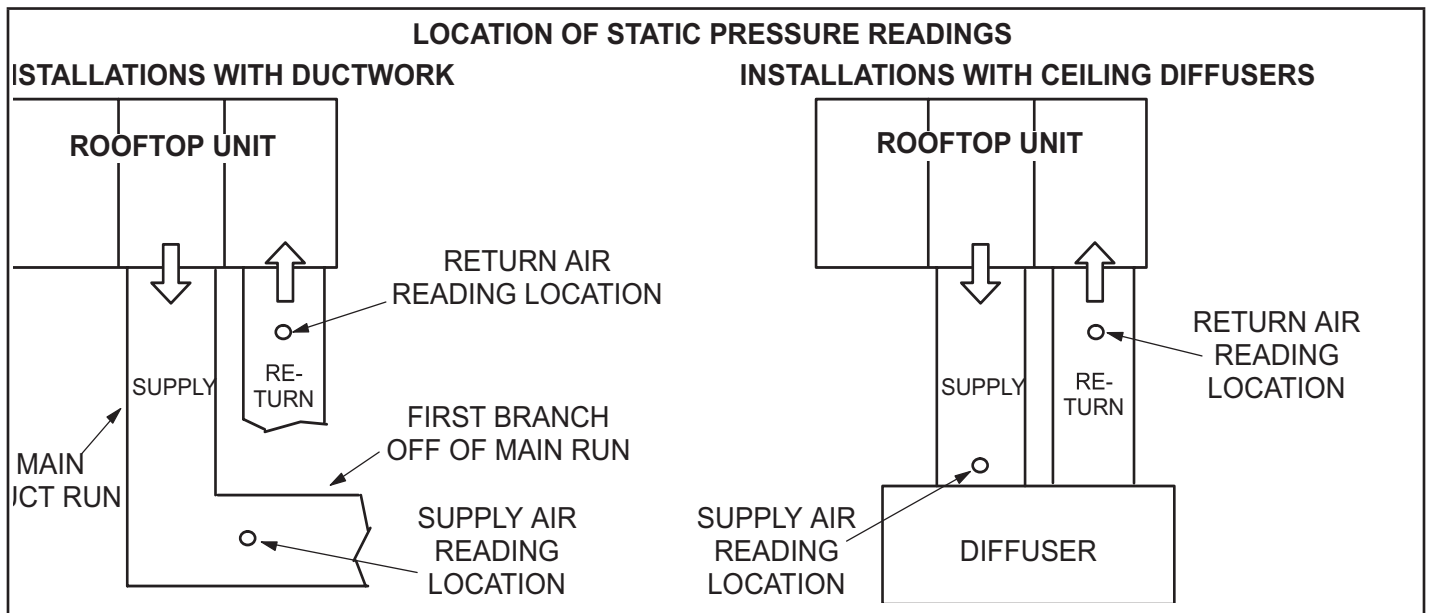

FIGURE 6
- 2 - With all access panels in place, measure static pressure external to unit (from supply to return). Blower performance data is based on static pressure readings taken in locations shown in figure 6.